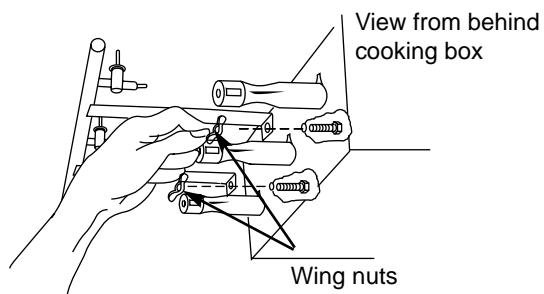

Figure 15
e) Remove the manifold bracket and unscrew the two wing nuts that hold the manifold to the cooking box. Pull the manifold and valve assembly out of the burners and carefully set it down. Figure 15.